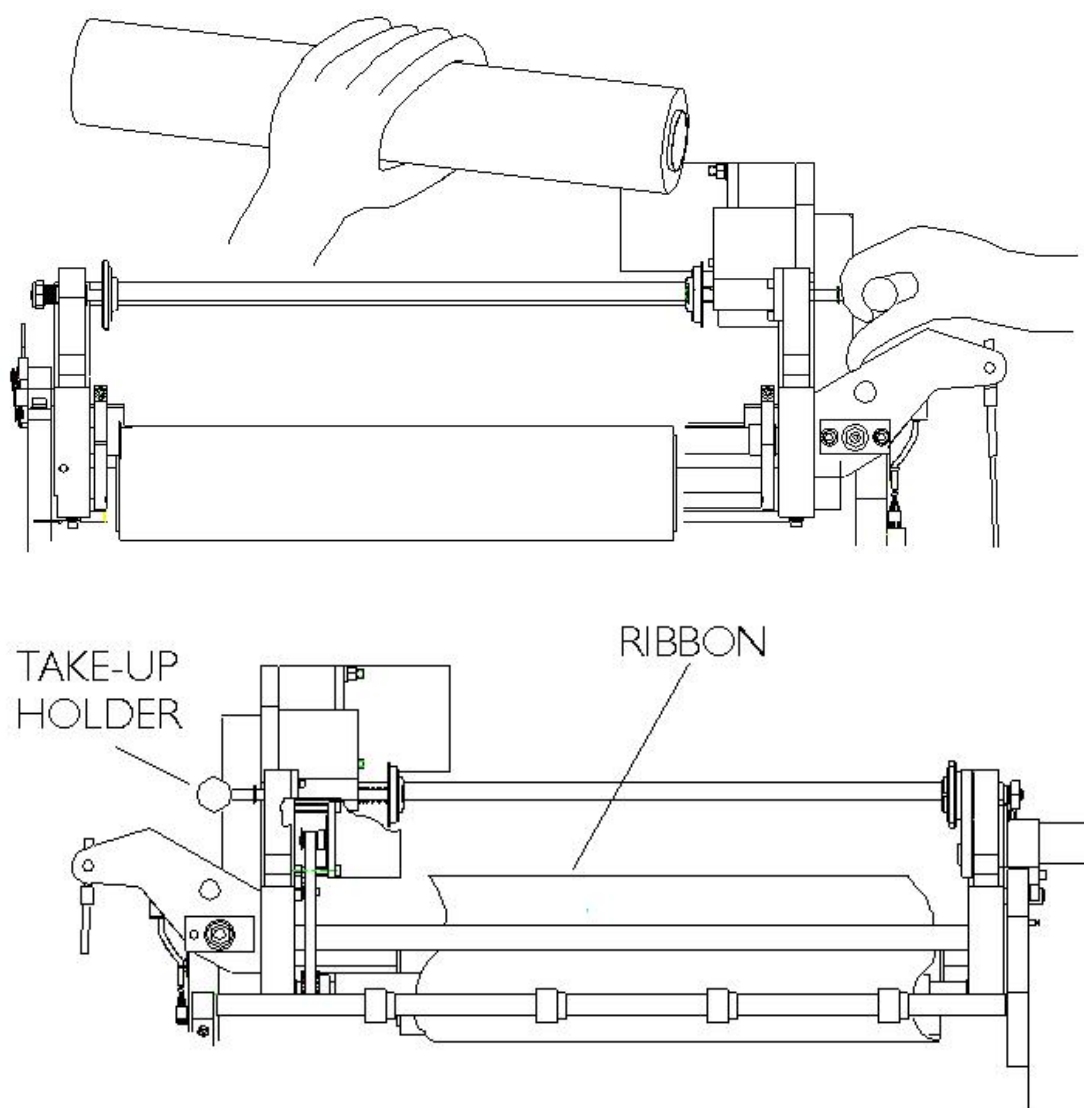

Figure 3.3 Ribbon Spool Loading
- D. Install the new ribbon in the holders as shown on Figure 3.3 and release the pin. Check the ribbon holders for full engagement with the ribbon core.